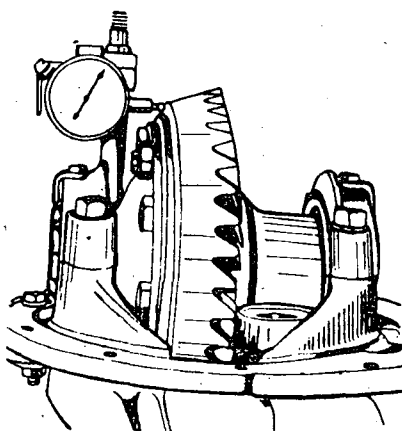

Fig. 7
d) Check the side play of the crown wheel by using a dial indicator (fig. 7).